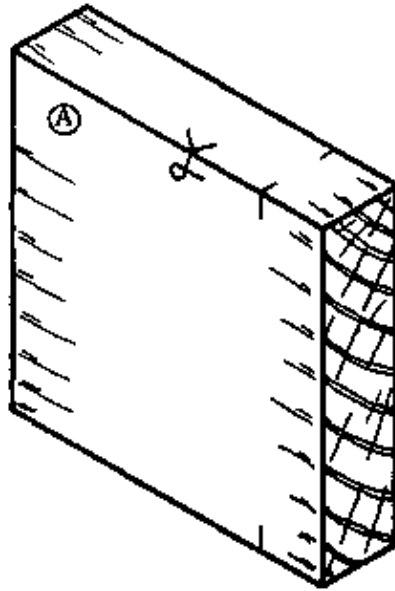
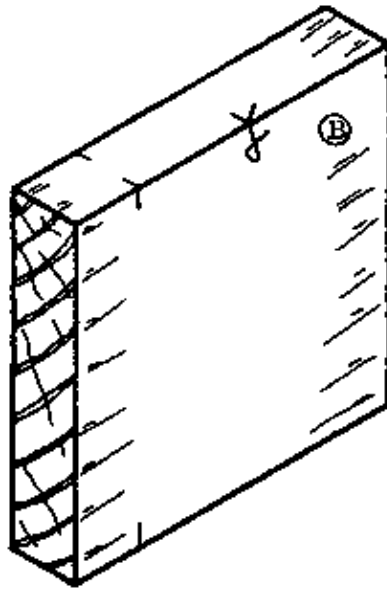

Fig. 2
Fig. 3
- Mark out the position of the tenons and slots by gauging or squaring lines at the corners on the ends of the pieces: on piece A the depth should be equal to the thickness of piece B (Fig. 2); while on piece B the depth should be equal to the thickness of piece A (Fig. 3). Allow 2 mm waste for cleaning up after assembly.